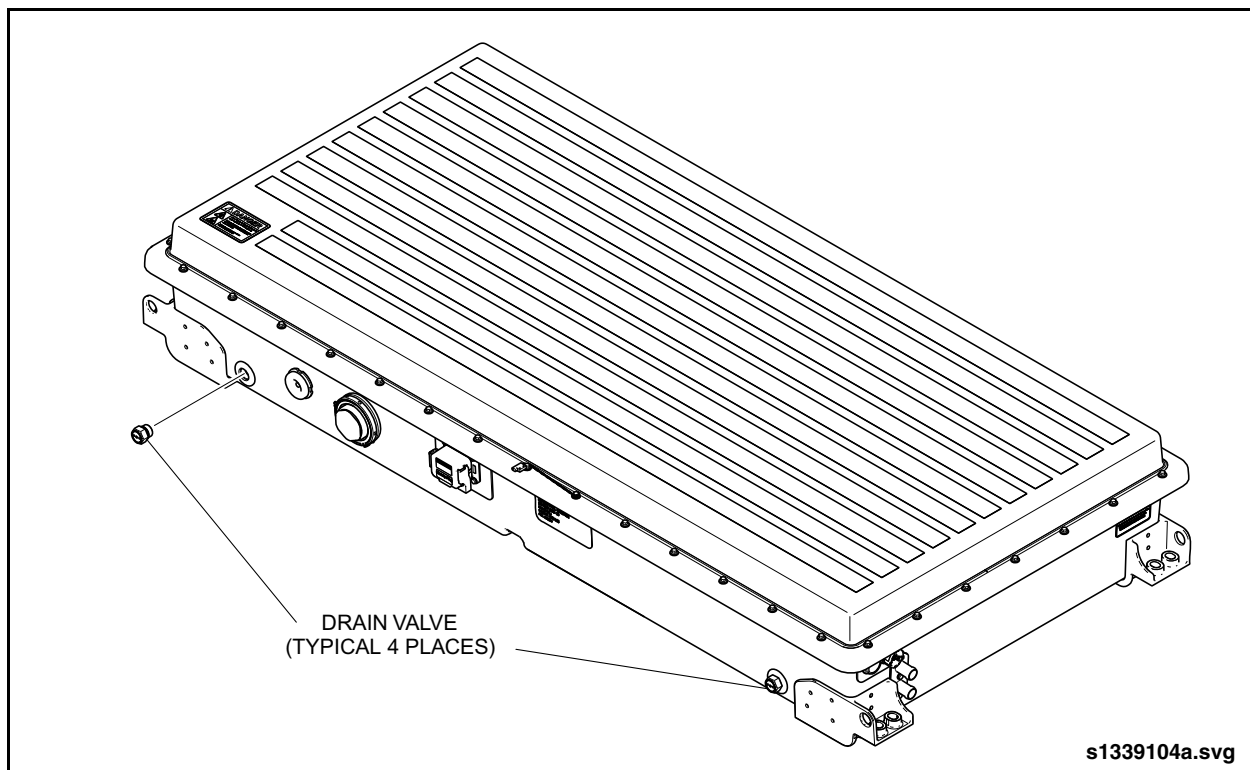

Fig. 3: ESS Enclosure Drain Valve Replacement
3. Gain access to all rooftop and rear ESS enclosures and inspect the four (4) drain valves on each ESS enclosure. See "Fig. 3: ESS Enclosure Drain Valve Replacement" on page 5.